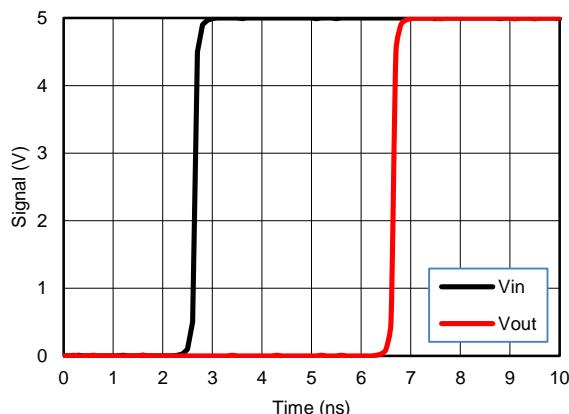

Figure 12. Simulated Input-to-Output Voltage Response Showing Propagation Delay at $V_{CC} = 5$ V
- Figure 12 illustrates the effects of frequency on output current.